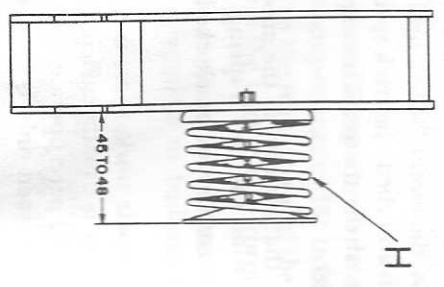

Fig. 2
To wind the mainspring, compress back spring H (Fig. 2) in the hand. (Stop movement of gear-train and allow back spring to release itself as many times as necessary.) When back spring is completely expanded, it is *equilibrated* with mainspring. The latter must never be wound more than back spring H (Fig. 2) can wind it. If the mainspring is overwound, the movement will *bank*. During this operation, count the number of revolutions of the barrel required to wind mainspring. When the springs are equilibrated, to secure the best working conditions, the mainspring should be wound to a minimum of 5 revolutions and a maximum of 7 revolutions. The winding of the mainspring ceases abruptly. If it does not, that is to say, if the back spring continues to wind the mainspring with a small momentum (by 2, 1 or even $\frac{1}{2}$ a ratchet cog at a time), it signifies that winding is not being operated under good conditions. The causes for this are the following:
2. Length of the small chain may not tally with requirements: it should be sufficiently long to allow a maximum expansion of the back spring of from 45 to 48mm (1.77 to 1.89 inches) from plate. (See Fig. 2).
When the temperature rises, the motor compresses the back spring H (Fig. 2) of the clock (invisible when the motor is in place) to which the chain is fixed. When the temperature decreases, the base contracts and allows the back spring to expand.